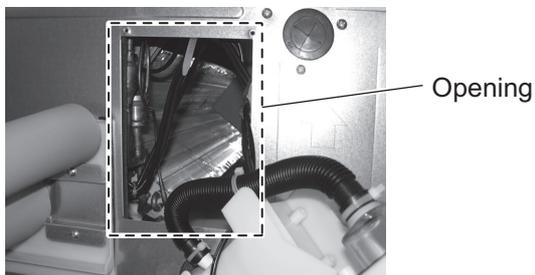
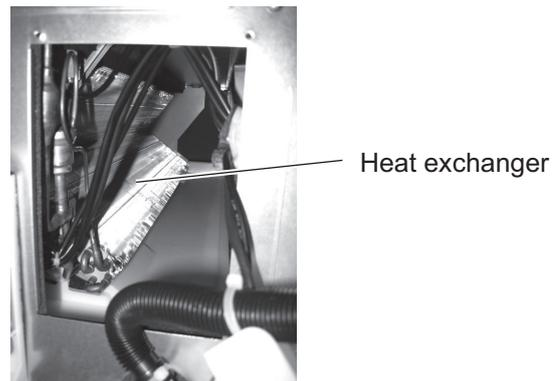

Fig. 2
Fig. 3
4. Insert a high pressure cleaner from the opening (Fig. 2) and clean the heat exchanger. (Fig. 3)